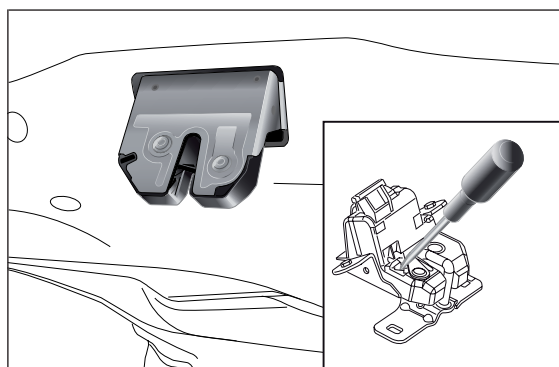

fig. 51
- ☐ remove the protective cap and release the lock using a screwdriver or the metal insert fig. 51.